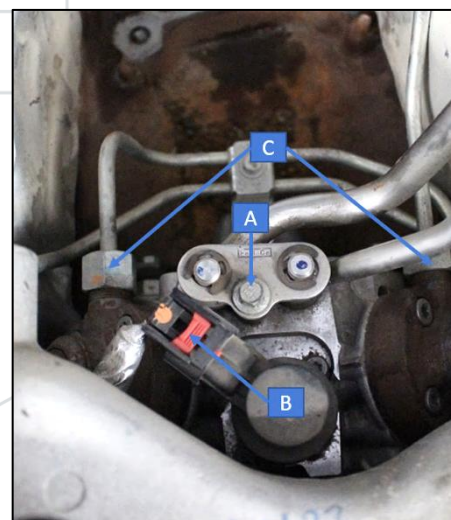

Figure 12: Fuel Lines to CP4 Pump
21. Referring to Figure 12, remove the hold down bolt (Labeled as A) connecting the line assembly to the CP4 fuel pump in the valley **(this bolt will be reused with the DCR pump).**
30. Referring to Figure 12, unplug the fuel control actuator (FCA/VCV) electrical connector (Labeled as B in Figure 12) on top of the CP4 pump. The red locking tab slides back and then you push down on it to release.